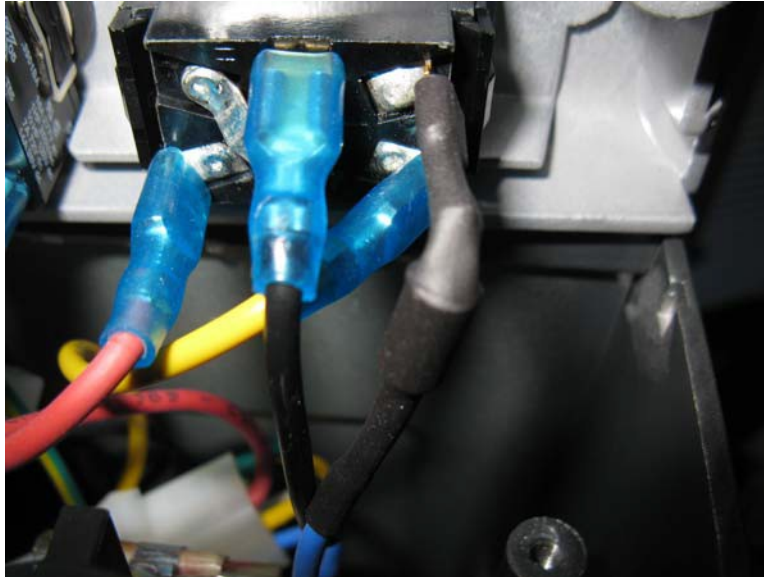

Figure 2 Speed Switch Wiring
- Draw a sketch of where each wire goes and remove the wire connectors. See (fig 2)